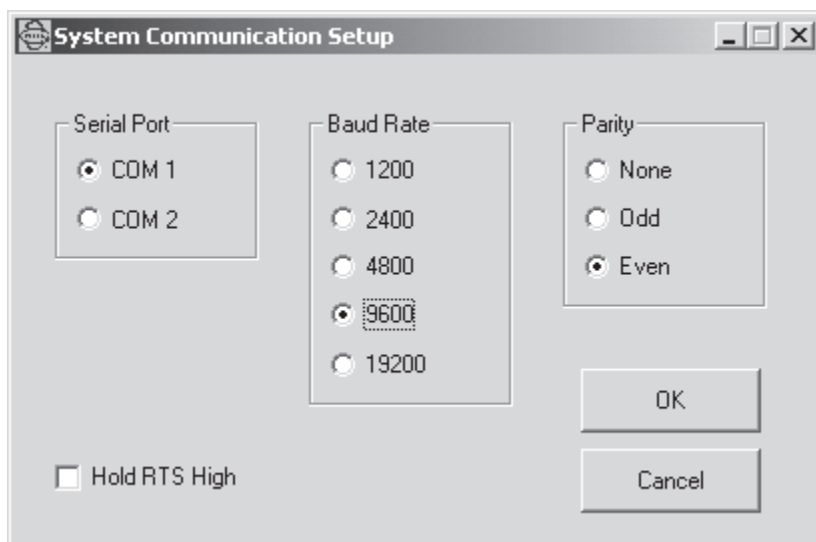

Figure 22. System Communication Setup Dialog Box
PC Communication: To set up the communication port for the PC, click System on the CM9760-MDA SETUP dialog box and then click PC COM Setup. The System Communication Setup dialog box, Figure 22, appears.
1. Select the PC serial port by clicking the option button next to the desired setting. The System Communication Setup dialog box displays up to four serial ports—COM 1, COM 2, COM 3, and COM 4—depending on the number of serial ports available on your PC. Only serial ports COM 1 and COM 2 are displayed in Figure 22. The default is COM 1.